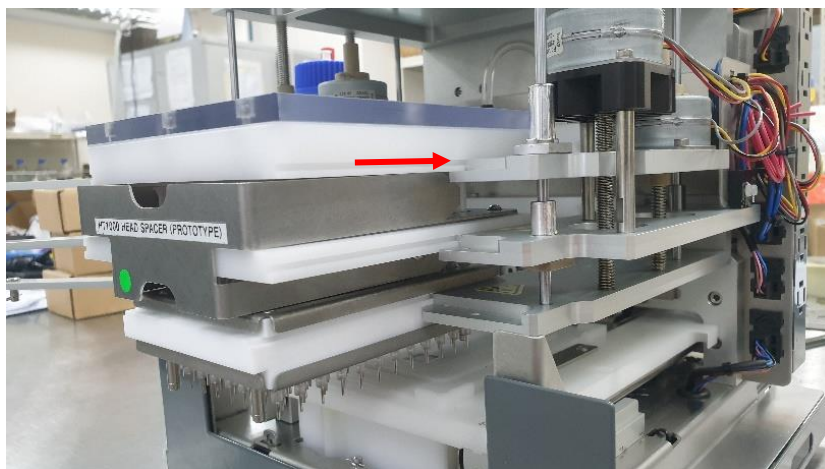

Figure 3-9: Align Fluidic Head to Machine (step 3)
10. And finally, the top block (Figure 3-9 red arrow).